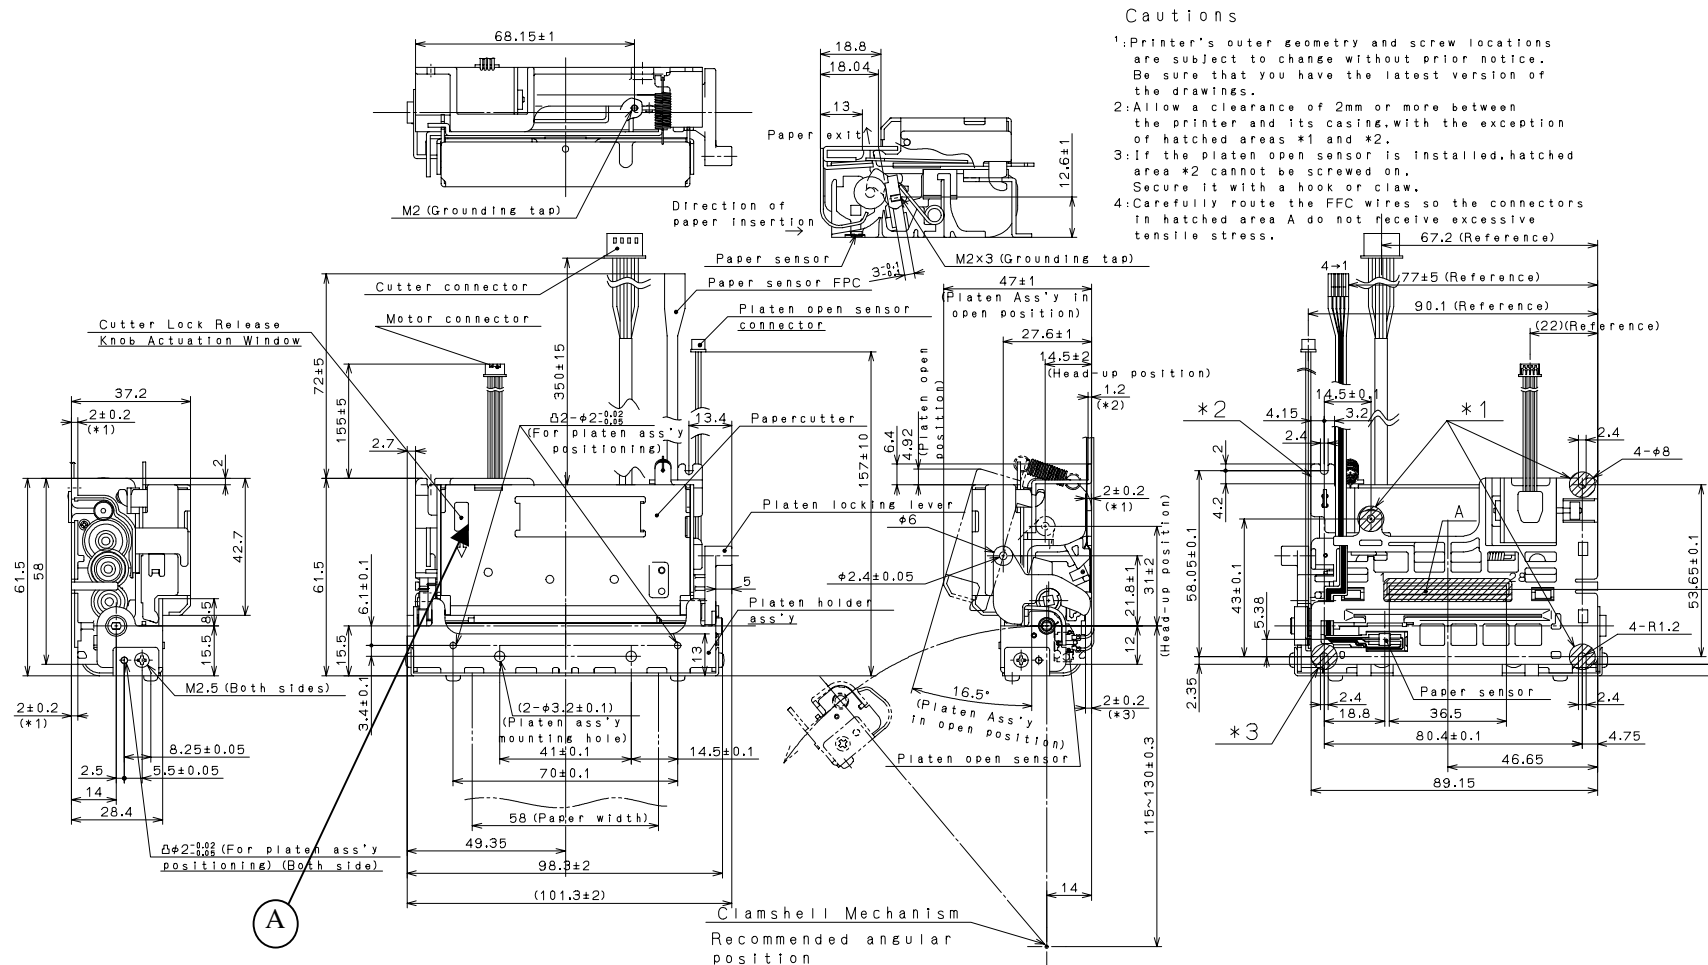

Figure 12-7 EXTERNAL SHAPE OF install paper
- (1) Because the paper cutter must be lifted whenever the platen is opened, a sufficient marginal space should be allowed above the paper cutter. See Figure 12-7, "12.7 EXTERNAL SHAPE OF (Not Install paper cutter)".
- (2) On top of the paper cutter is a manual unlocking lever. The exterior case should be so designed that the lever is easily accessible whenever the cutter is in the Lock position. For the location of the manual unlocking lever, see Figure 12-7, "12.7 EXTERNAL SHAPE OF (Install paper cutter)". Once the cutter is locked up, the platen will never be opened unless the cutter is manually unlocked with the unlocking knob.